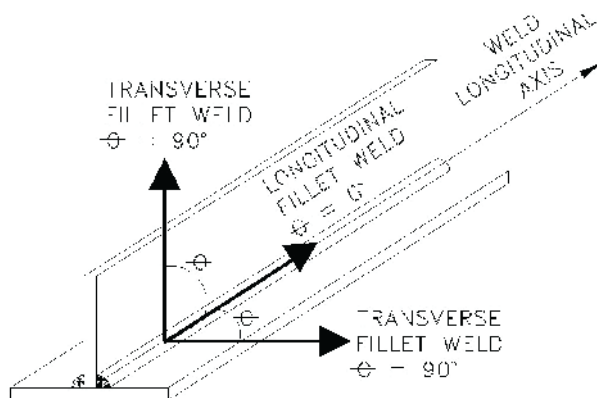

Fig. 7. Directionality of force action on a fillet weld.
Where θ is the angle between the line of force and the weld longitudinal axis (see Figure 7).
Specification Section J2.4(b)(1) provides an alternative to Table J2.5 for fillet weld strength that takes advantage of this increase in fillet weld strength for linear weld groups. Linear weld groups are defined as a single line of weld, or parallel lines of welds, loaded through its center of gravity at an angle θ relative to the weld longitudinal axis (Figure 7 shows a linear weld group consisting of two parallel fillet welds).